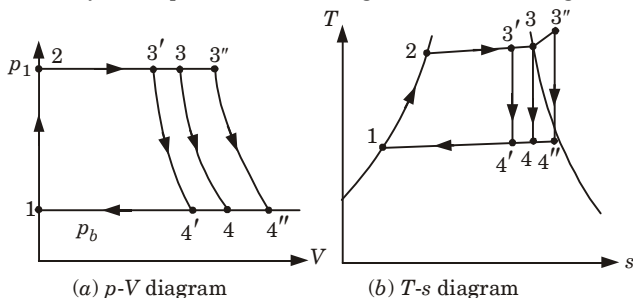

Fig. 4.13.1.
3. Rankine cycle on (p - V) and (T - s) diagram is shown in Fig. 4.13.1.